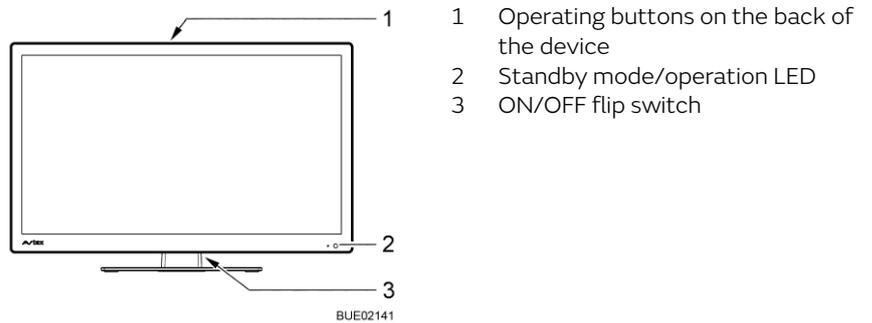
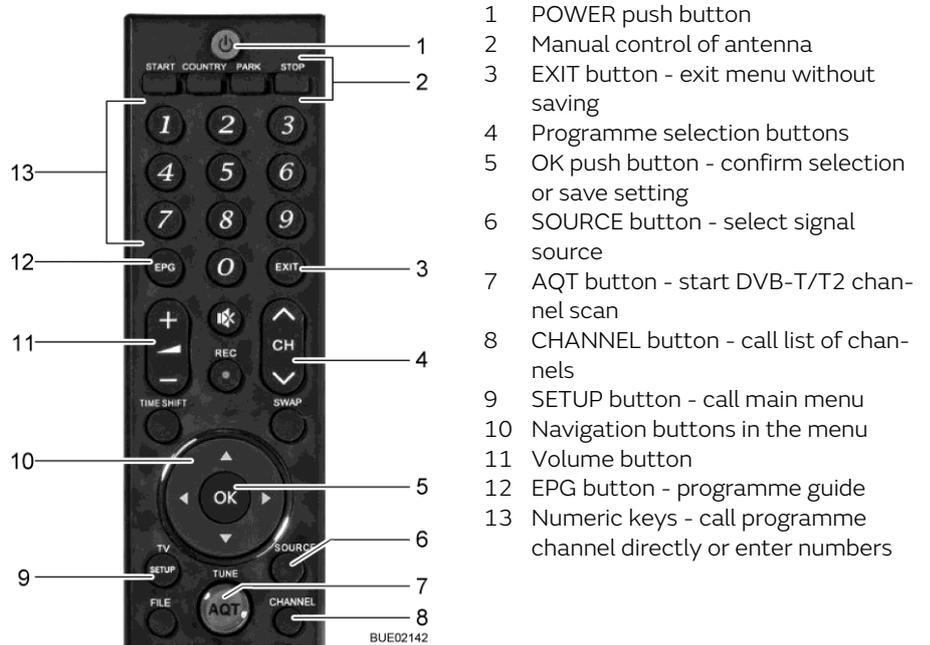

Fig. 64 Operation on the flat screen
Fig. 65 Remote control
- Set flip switch (Fig. 64,3) on the flat screen's back to ON. The system changes to standby mode. The LED (Fig. 64,2) is lit red.
- Press the POWER button (Fig. 65,1) on the remote control. The LED (Fig. 64,2) is lit blue.
- Press the programme selection buttons (Fig. 65,4 or Fig. 65,13) until the desired TV programme has been selected.
- Press the SOURCE button (Fig. 65,6) repeatedly until the desired signal source has been selected.
- Press the PARK button (Fig. 65,2). The antenna moves into parking position.
- Press the SOURCE button (Fig. 65,6) repeatedly until the desired signal source (e.g. DVD) has been selected.
- Press the POWER button (Fig. 65,1) on the remote control. The system changes to standby mode. The LED (Fig. 64,2) is lit red.
- Set flip switch (Fig. 64,3) on the flat screen's back to OFF.